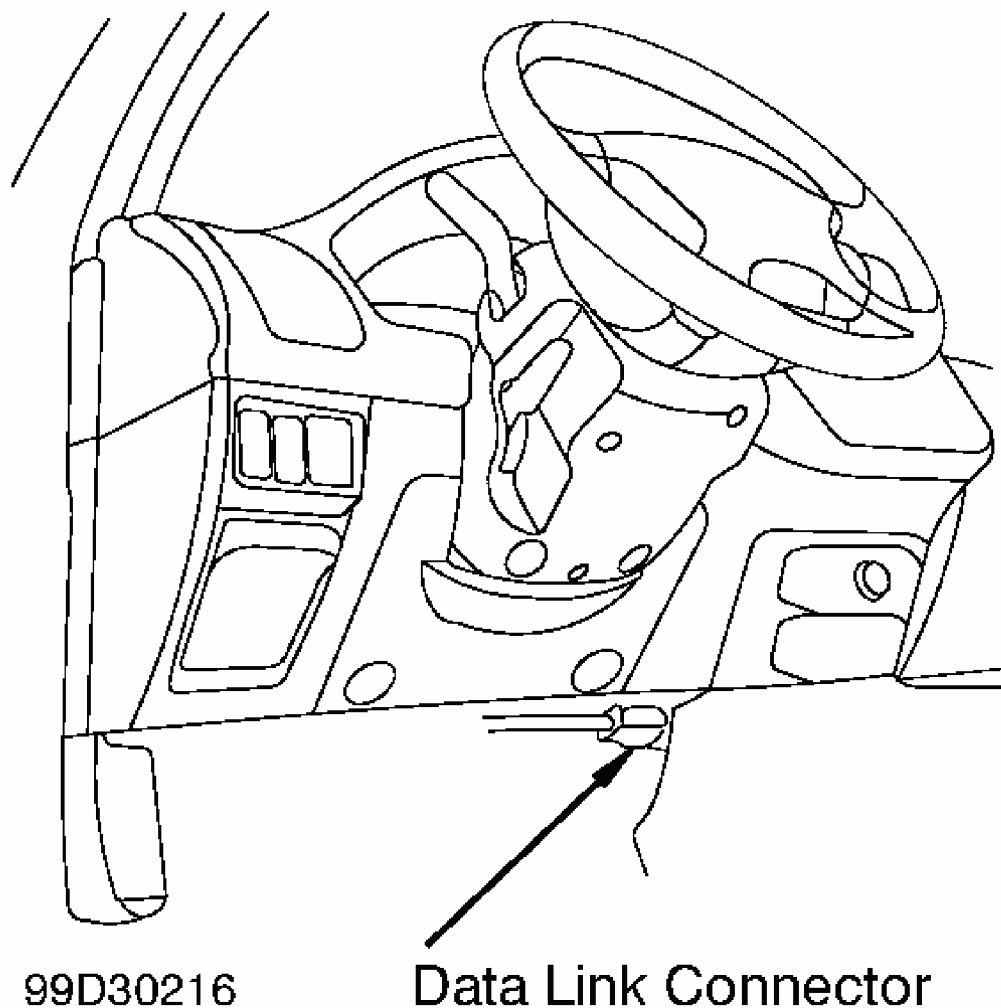
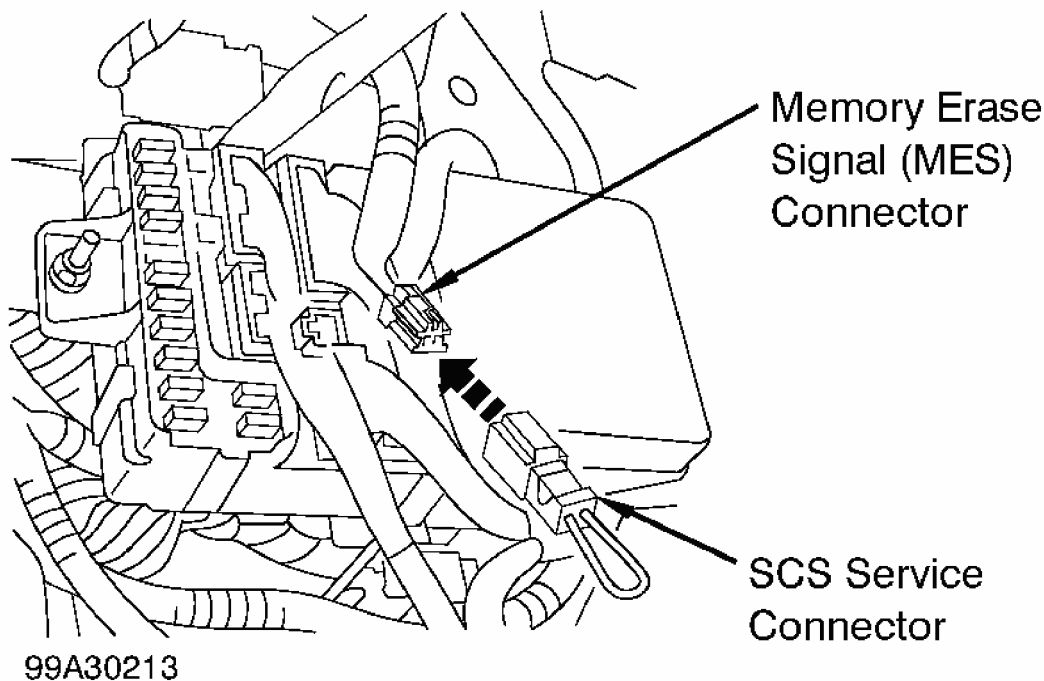

Fig. 33: Identifying Data Link Connector (DLC)
Fig. 34: Locating Memory Erase Signal (MES) Connector
Connect HDS to 16-pin Data Link Connector (DLC). See **Fig. 33** . Turn ignition switch to ON position. Select DTC in DTC MENU on HDS and read DTC. Turn ignition switch to OFF position and wait at least 10 seconds. Disconnect HDS from DLC. Perform appropriate diagnostic test. See **DIAGNOSTIC TROUBLE CODE (DTC) CHART** table.
1. Turn ignition switch to OFF position. Connect Honda Diagnostic System (HDS) to 16-pin data link connector and follow tester prompts in SCS menu. See **Fig. 33** .
Connect Honda Diagnostic System (HDS) to 16-pin Data Link Connector (DLC). See **Fig. 33** . Turn ignition switch to ON position. Select DTC CLEAR in TEST MODE MENU on HDS. Turn ignition switch to OFF position and wait at least 10 seconds. Disconnect HDS from DLC.
1. Turn ignition switch to OFF position. Connect SCS Service Connector (07PAZ-0010100) to Memory Erase Signal (MES) connector. See **Fig. 34**.
1. Place right seat back in normal position. Ensure nothing is sitting on right front seat cushion and right front seat is free of moisture. Turn ignition switch to OFF position. Connect Honda Diagnostic System (HDS) to 16-pin data link connector and follow tester prompts in "SCS" menu. See **Fig. 33** . Connect SCS Service Connector (07PAZ-0010100) to Memory Erase Signal (MES) connector. See **Fig. 34** .